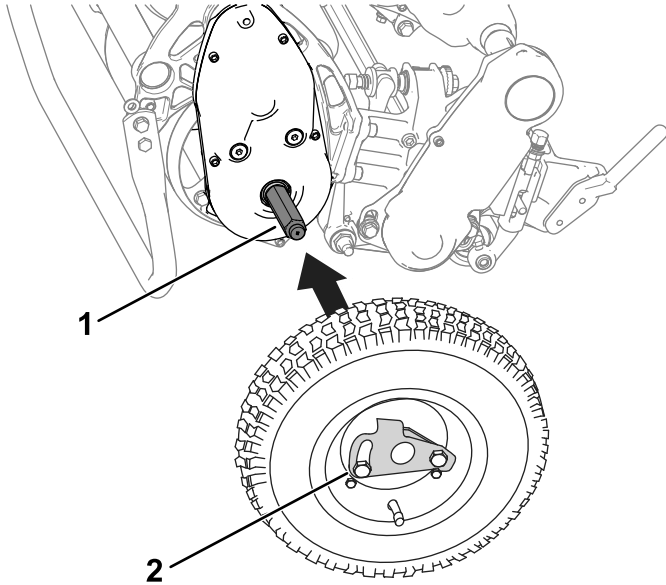

Figure 30
2. Slide a wheel onto an axle (Figure 30).
3. Pivot the wheel-locking clip (Figure 30) away from center of the wheel, allowing it to slide farther onto the axle.